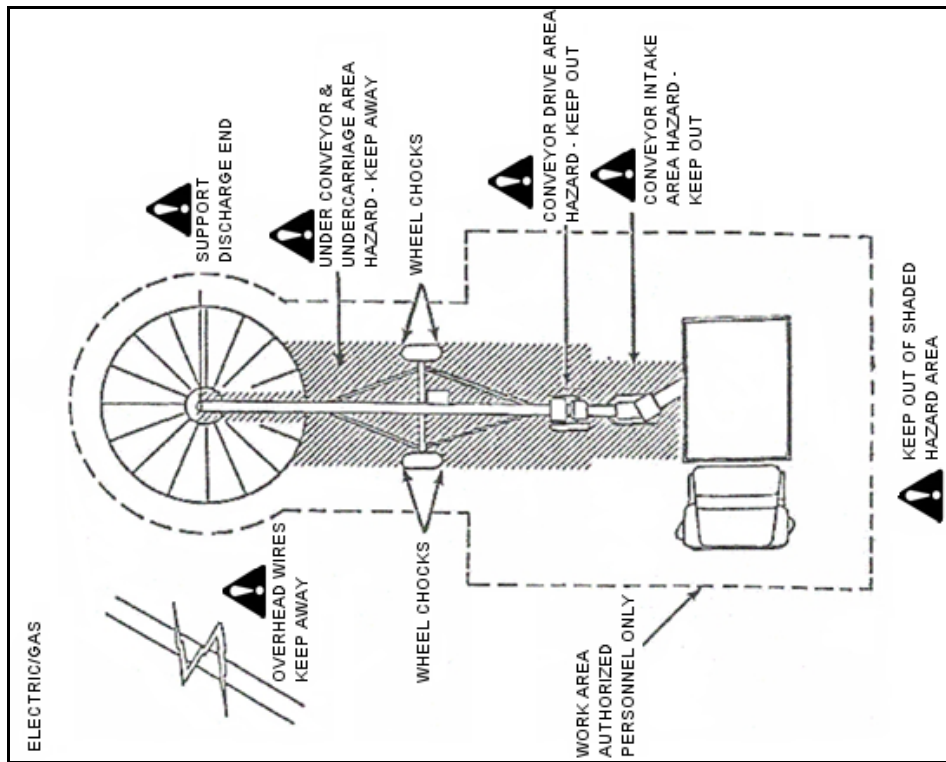

Figure 2.1 Workplace Hazard Area (Electric Area)
- Be familiar with the machine hazard area shown in Figure 2.1 and 2.2. If anyone enters the hazard area, shut down the machines immediately. Clear the area before restarting.